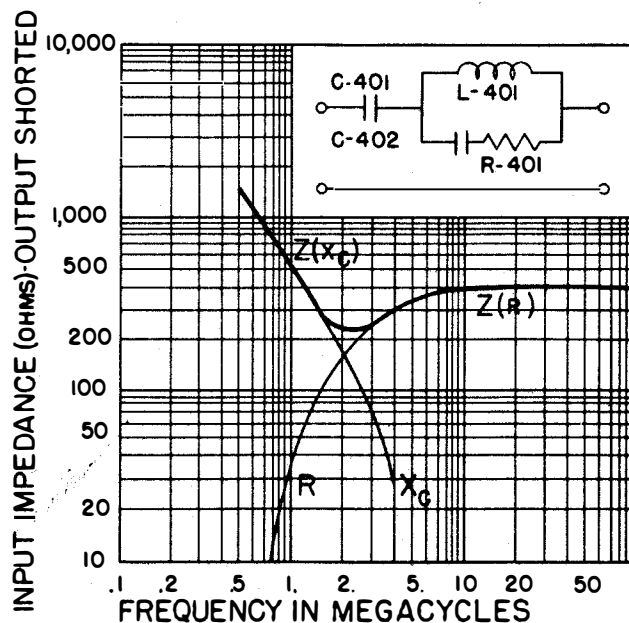

Figure 2-15. Schematic Diagram of the Antenna Simulator SM-35/URM-25 with Input Impedance-Frequency Curve
(See figure 2-15).
c. From the impedance curve (figure 2-15), it can be seen that the minimum impedance of the antenna simulator will be approximately 220 ohms. When using this unit, first connect one end of the Impedance Adapter MX-1074/URM-25 to the output cable (W-104) and plug the other end of W-104 into J-102 on the signal generator. Using the auxiliary cable (W-105), connect the antenna simulator to the impedance adapter. If necessary, the second auxiliary cable (W-106) may then be used to connect the antenna simulator to the receiver under test.
d. In using the antenna simulator, it should be realized that the significant voltage is the input and not output voltage of the antenna simulator. The reason for this is that the antenna simulator approximates a standard antenna which forms a part of the overall sensitivity measurement of a receiver designed for use with it. For example; if the output frequency of the signal generator is 20 mc, it can be seen, from figure 2-15 that the series impedance of the antenna simulator will be approximately 400 ohms resistive. Make the necessary connections as indicated in paragraph 10c of this section. A meter indication of 10,000 microvolts represents an input voltage of 10,000 microvolts to the antenna simulator.
ohms. From figure 2-15, it is apparent that the accuracy will be sufficiently good at frequencies above 5mc. Below 5mc, the impedance falls off to approximately 220 ohms and the receiver input load should be sufficiently high (approximately 280 ohms or greater) to maintain the accuracy.